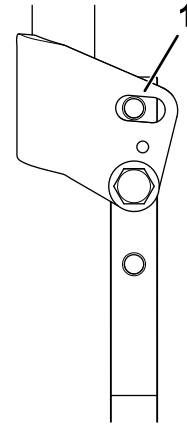

**Figure 3**
- To increase the lever height by 2.5 cm (1 inch), install the 2 bolts into the lower set of holes (Figure 3).